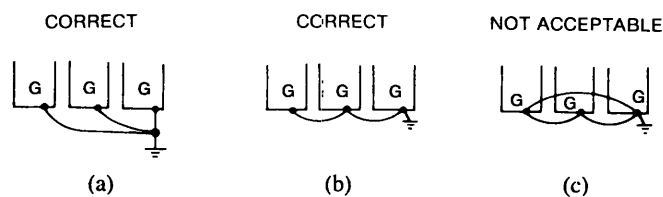

Fig. 3 Grounding of Three VS-616G3 Units
- (1) Ground resistance should be 100Ω or less.
- (2) Never ground the VS-616G3 in common with welding machines, motors, and other large-current electrical equipment. Run the ground lead in a separate conduit from leads of large-current electrical equipment.
- (3) Use ground leads which comply with AWG standards using the shortest length possible.
- (4) When several VS-616G3 units are used side by side, all the units should preferably be grounded directly to the ground poles. However, connecting the ground terminal of VS-616G3 units in parallel, and grounding only one of the VS-616G3 units to the ground pole is also permissible (Fig. 3). However, do not form a loop with the ground leads.